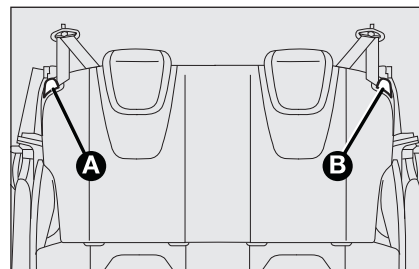

fig. 45
**EXTENDING THE BOOT****Partial extension (50/50) (where provided) fig. 45**
- ☐ lift handle **A** or **B**-fig. 45 to release either the left or right part of the backrest and guide the backrest down onto the cushion.
- ☐ operate levers **A** and **B**-fig. 45 to release the backrests and guide them onto the cushion.